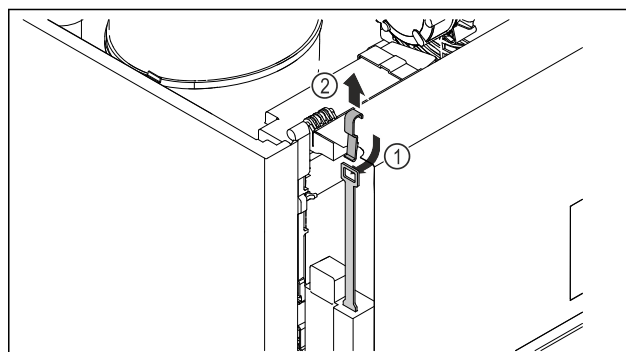

Fig. 207
► Push the emergency release key Fig. 207 (1) in from the top, hook it into the lock, and pull up Fig. 207 (2).